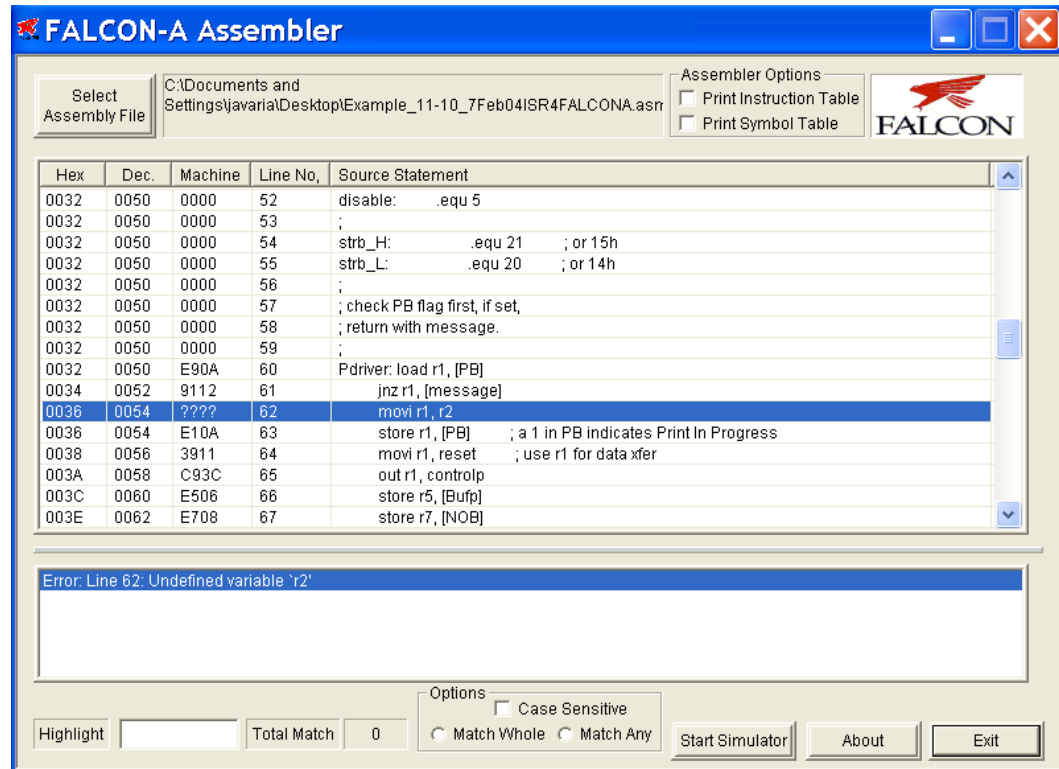

Figure 4
- Double clicking on any error message highlights and displays the corresponding erroneous line in the program listing window pane for the user. This is shown in Figure 4. The highlight feature can also be used to display any text string, including statements with errors in them. If the assembler reported any errors in the source file, then these errors should be corrected and the program should be assembled again before simulation can be done. Additionally, if the source file had been assembled correctly at an earlier occasion, and a correct binary (.binfa) file exists, the simulator can be started directly without performing the assembly process.